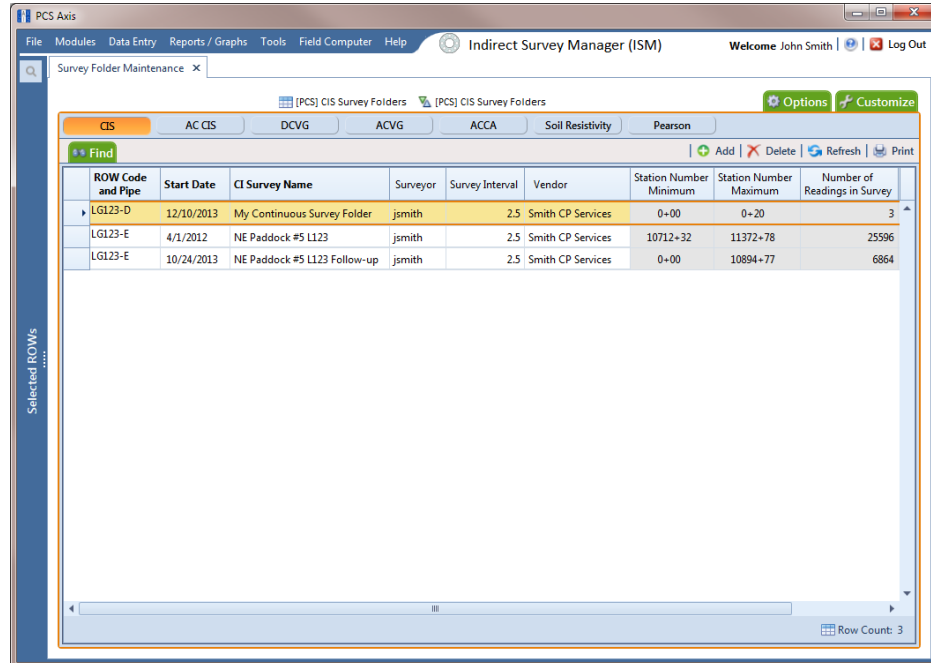

Figure 6-8. Survey Folder Maintenance
- 5 Select a pipeline segment in the grid that includes the continuous survey folder you want to delete. For example, the row of records for pipeline segment *LG123-D* are selected in the following figure (Figure 6-8, page 190).
- 4 Click a button labeled with the type of continuous survey that you want to add a layout theme. For example, click the **CIS** button  to add a layout theme for a continuous survey associated with close interval survey readings (Figure 6-8, page 190).
- 4 Click a button labeled with the type of continuous survey that you want to add a sorting theme. For example, click the **CIS** button  to add a sorting theme for a continuous survey associated with close interval survey readings (Figure 6-8, page 190).